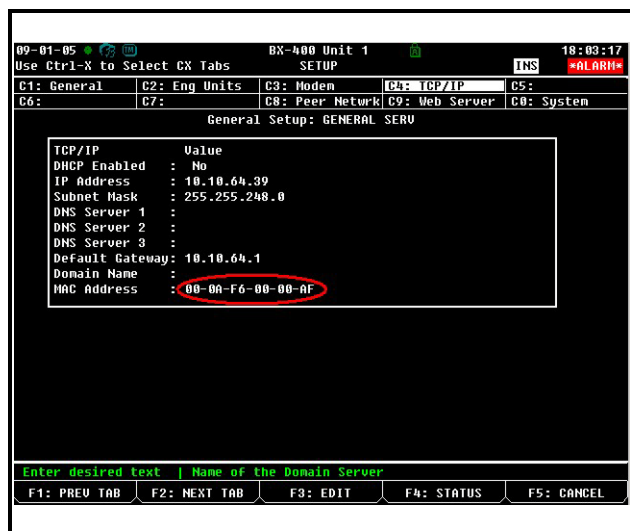

Figure 10-33 - TCP/IP Screen - Locating the Mac Address
3. Press **# 3** (TCP/IP Setup) to open the TCP/IP Setup screen and locate your E2's MAC address (circled in **Figure 10-33**):